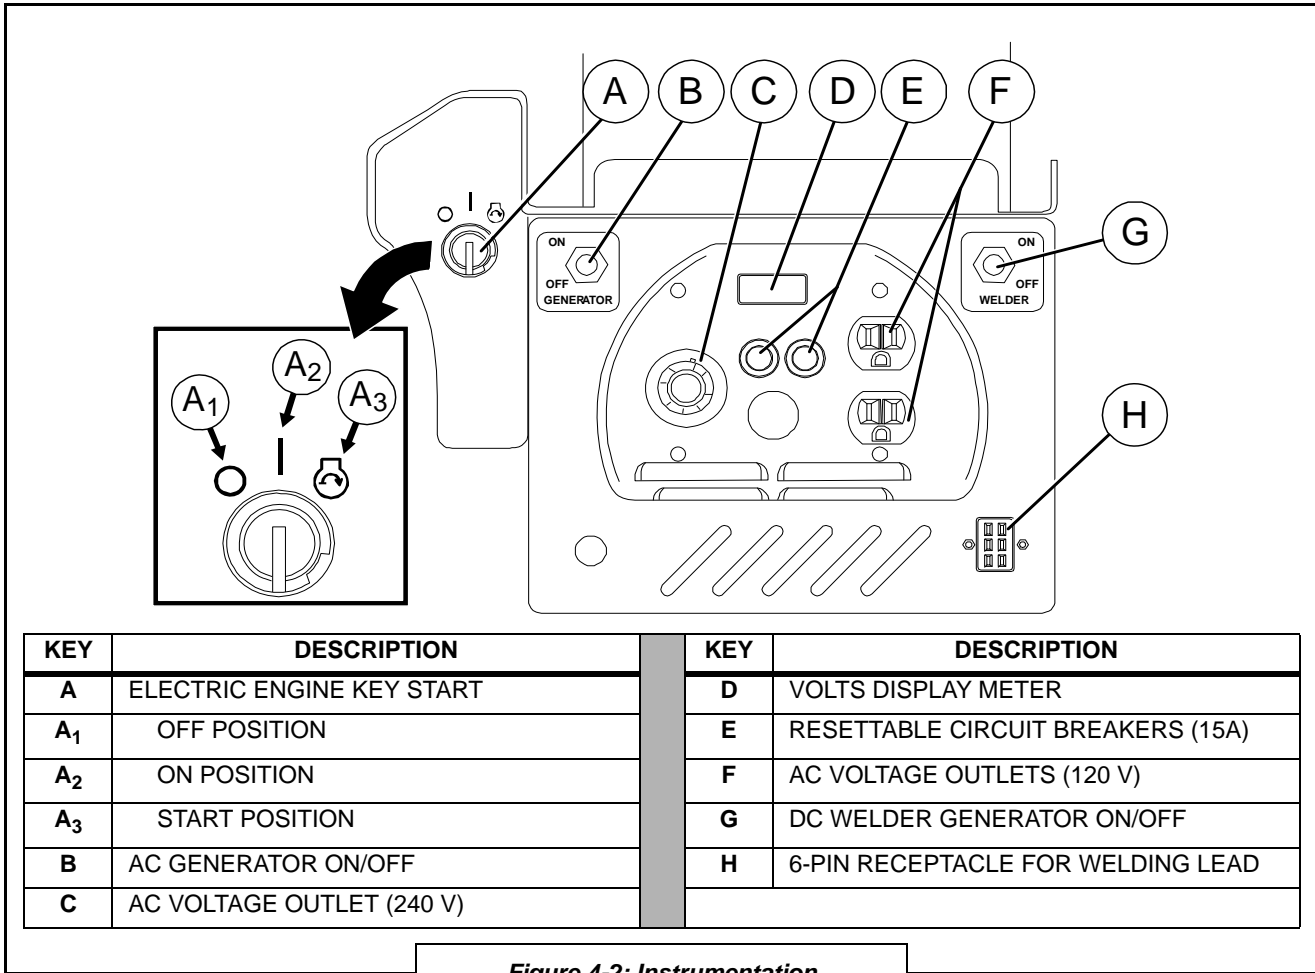

Figure 4-2: Instrumentation
Consult *Figure 4-2* for operating procedures detailed in this section.
Consult **Figure 4-2**. To shut the engine off at any time, turn the engine control switch to the **OFF** position [A₁]. However, this method is best reserved for emergency shutdown situations only.
4. Turn the **Generator** and **Welder** switches on the control panel (**Figure 4-2, [B & G]**) to their **OFF** positions.
If the thermal overload circuit breakers on the generator are tripped due to an overload condition, press the white reset buttons on the generator panel to reset the breakers (*Figure 4-2*).